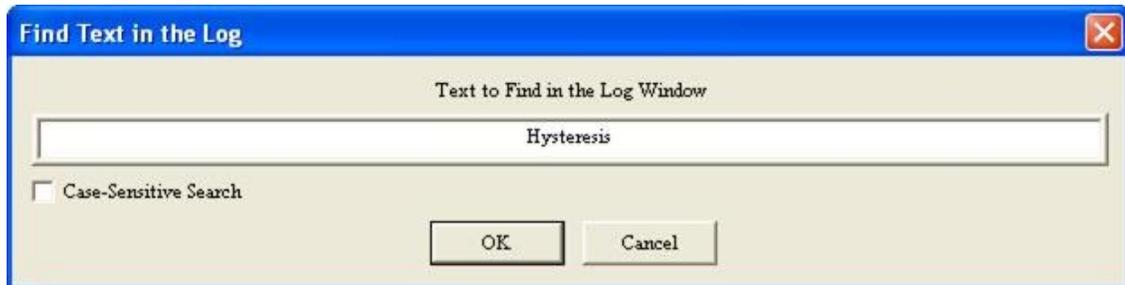
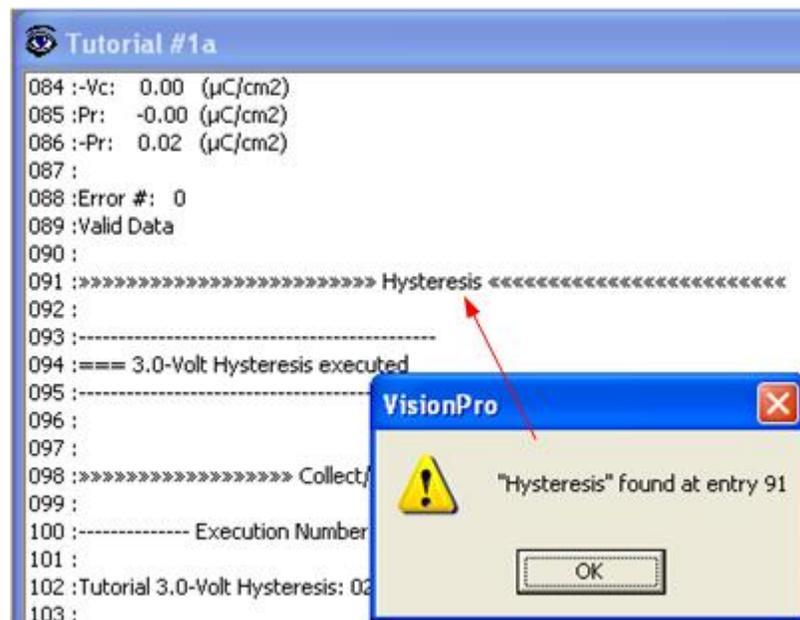

Figure 6 - Search For Text in the Log Window.
Figure 7 - Text Located in the Log Window.
5. **Find Text (Ctrl-F)** - This feature opens a dialog (**Figure 6**) in which the user enters text to be searched for in the Log window. The search may either be case sensitive, or ignore case. When the text is found, the Log window is scrolled to the page and a dialog appears indicating the text line number (**Figure 7**). This option is disabled if there is no open DataSet.